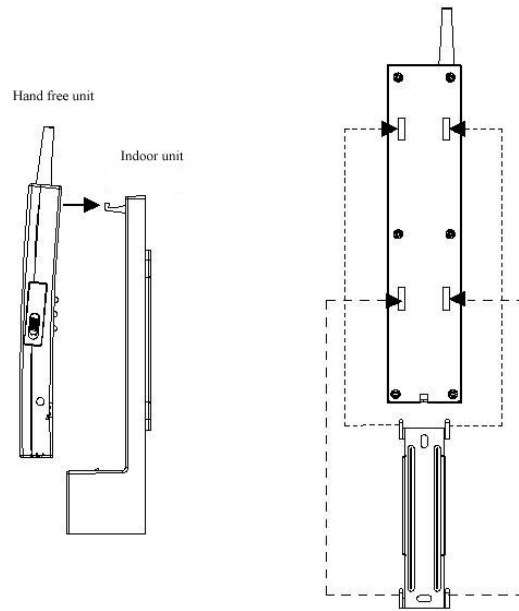

Fig.7-1
2. For the indoor set wall-mounting bracket, make sure the unit is in up direction when placing on to the wall. The connection between the indoor unit and the corresponding bracket is shown in the following figure 7-1. Tips of the bracket have to face upwards; otherwise, the phone set will be upside down.